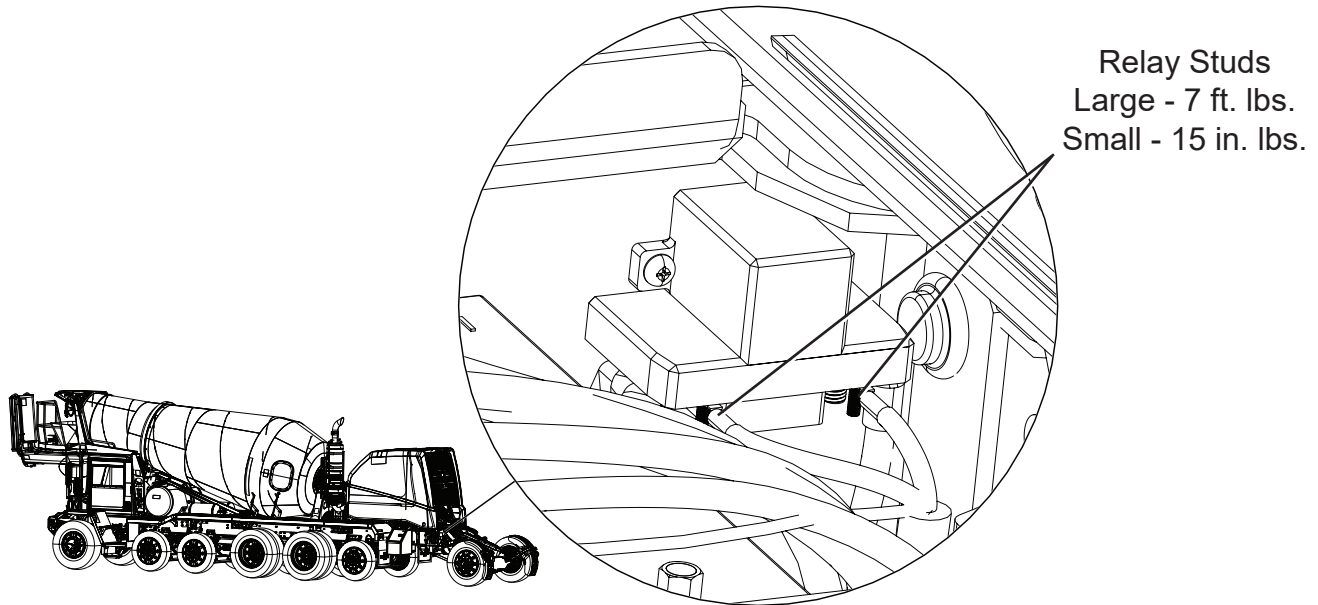

Figure 7
9. Check the small and large stud nuts on the battery box relay (located inside the battery box) torque, see Figure 7.